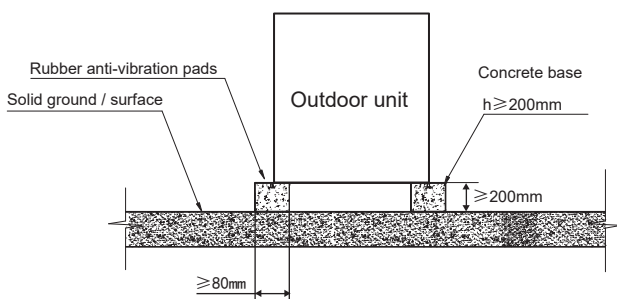

Fig. 6-5 Front view of base structure
- 4) A typical concrete base design is shown in Fig. 6-5. A typical concrete specification is 1 part cement, 2 parts sand and 4 parts crushed stone with steel reinforcing bar. The edges of the base should be chamfered.